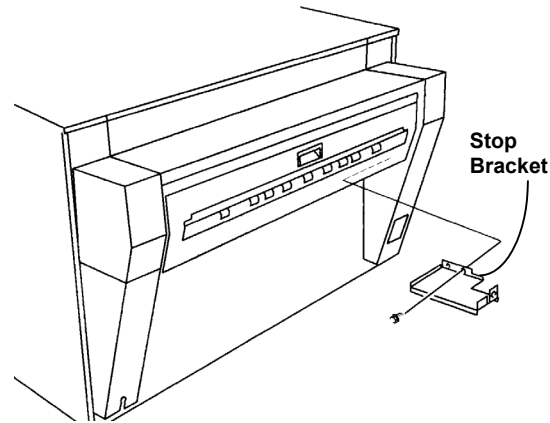

Figure 2 Installing the Stop Brackets.
3. (Figure 2) Install the Stop Brackets on the right and left side of the 721P Rear Side Covers using the top two (2) holes.